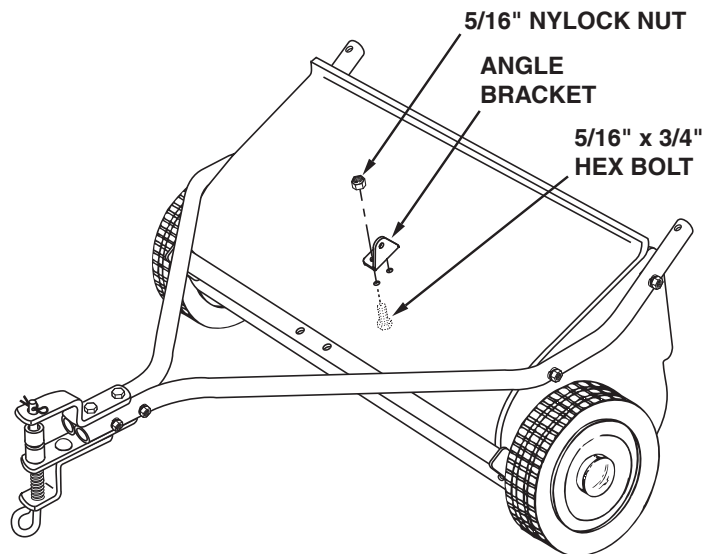

FIGURE 6
- Assemble the angle bracket to the sweeper housing using two 5/16" x 3/4" hex bolts and 5/16" nylock nuts. The upright portion of the angle bracket should face toward the left side of the sweeper. See figure 6.